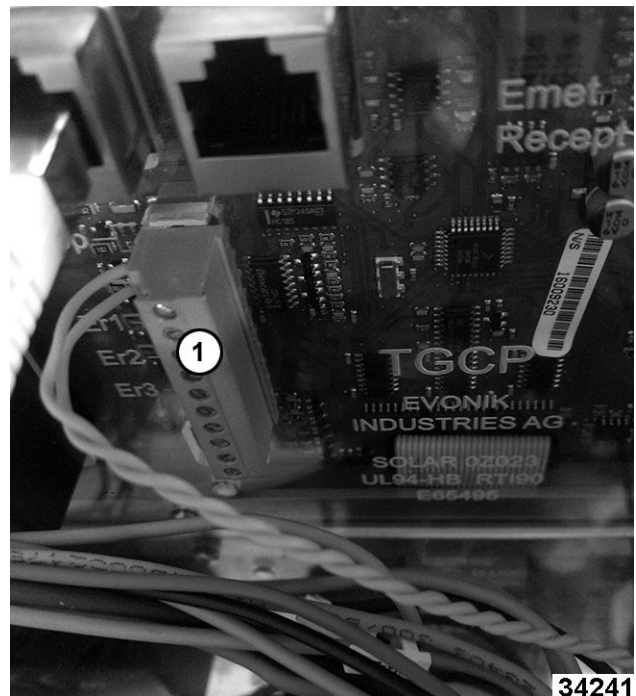

Fig. 5
3. Disconnect door switch connector (1, Fig. 5) from board.